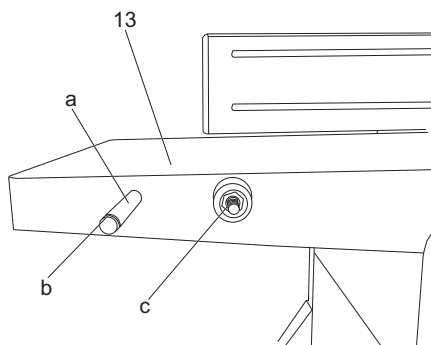

Fig. 7
- > Familiarise yourself with the blade guard locating pivot pin (a), the groove (b) and the blade guard limiting knob pole (c) situated on the side of the planer out-feed table (13). (Fig. 7)